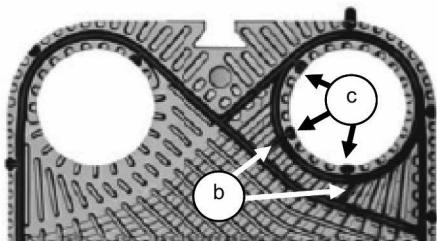

Fig.9
- On the other half, use shears to remove all the Plug-In® tabs and, if present, all the connecting bridges between the diagonal and the sealing ring (Fig.9 b). So, following the procedure described in point 5.7.3, attach the gasket, excluding the sealing rings. Models with a dedicated initial gasket: no cutting is necessary; attach the gasket according to the
- Models equipped with Plug-In® tabs inside the sealing rings: using shears, cut the Plug-In® tabs inside the sealing rings (Fig. 9 c) corresponding to the closed holes only. Then, following the procedure described in point 5.7.3, attach only the connecting bridges between the diagonal and the ring.